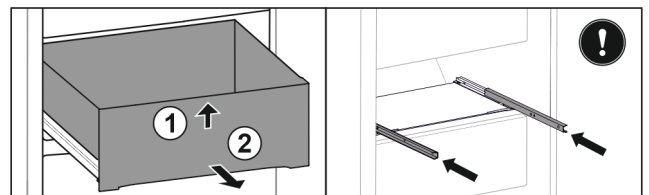

Fig. 29
- ▶ Lift up the drawer at the front Fig. 29 (1).
- ▶ Remove to the front Fig. 29 (2).